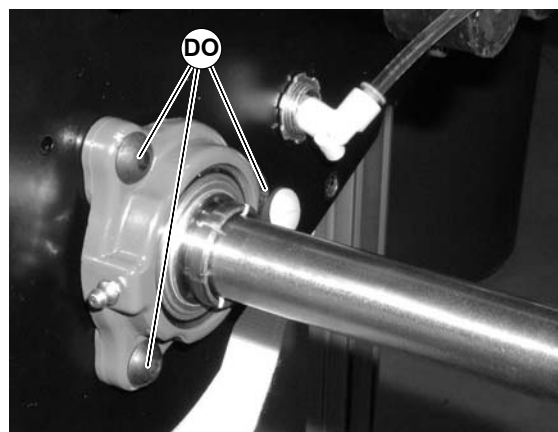

Figure 107
6. Tighten three (3) mounting screws (DO of Figure 107) to 200 in-lbs (22.5 N-m).